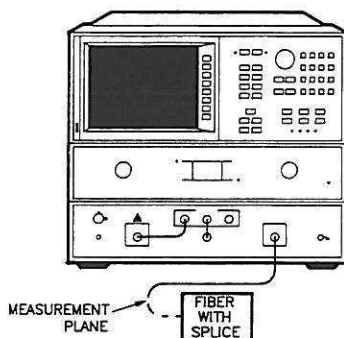

Figure 19. Optical Response Measurement Calibration Configuration
6. Do not connect the DUT to the coupler test port as shown in Figure 19.